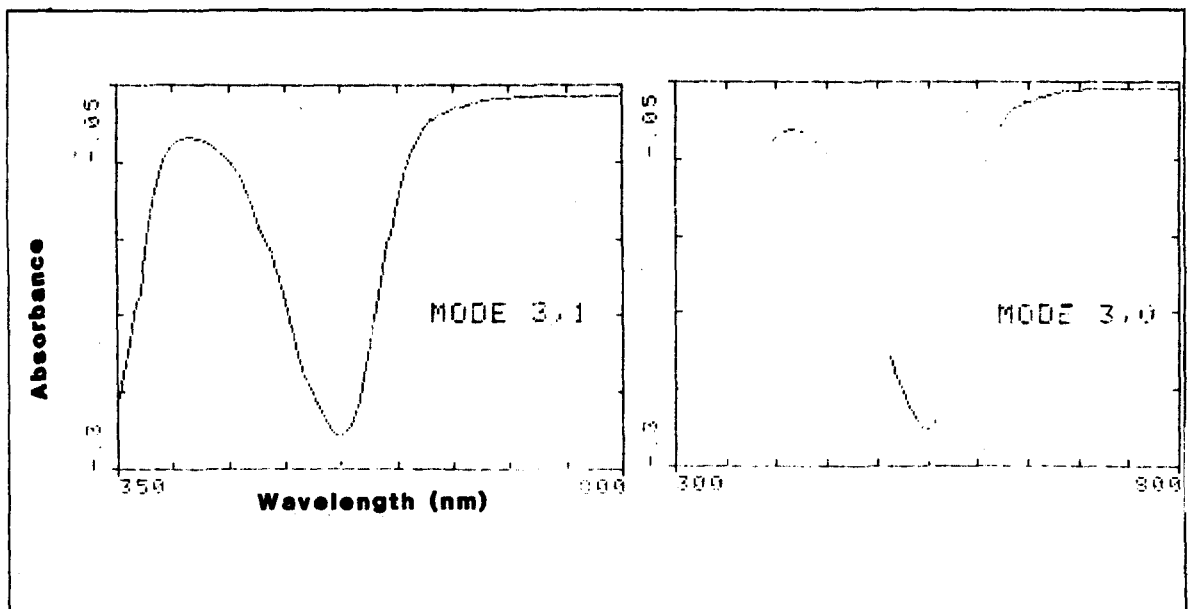

Figure 4-14. Negative Absorbance Measurement Using MODE 3
4. Measure the sample absorbance. The comparative advantage of enabling MODE 3 for samples that show negative absorbance is shown in the data of Figure 4-14.